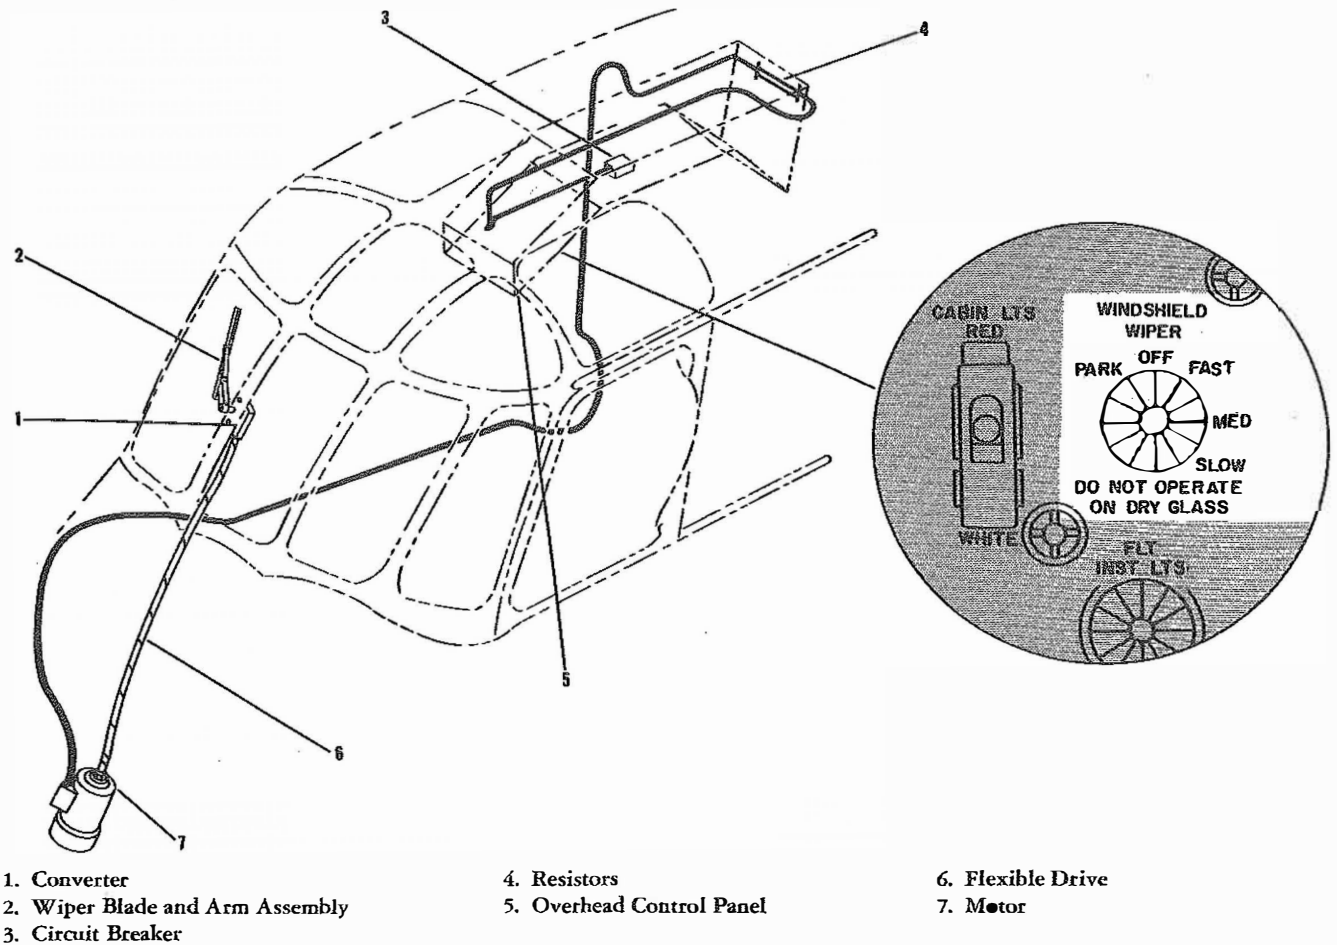

Figure 4-3. Windshield Wiper System Diagram
4-69. DESCRIPTION. (See figure 4-3.) A single windshield wiper is installed on the right-hand, or pilot's side of the cockpit windshield. The wiper blade and the arm assembly (2), which operate over a 120-degree sector of the windshield, are connected to the shaft of a converter (1) on the windshield frame. The
a. Remove the windshield wiper blade from the arm assembly (2, figure 4-3). Cut the lock wire and remove the bolt that holes the arm assembly to the shaft of the converter (1). Remove the arm.
b. Remove the instrument panel cowl. Disconnect the flexible drive (6) at the converter (1) and at the motor (7). Remove the screw and washer that secure the clamp around the flexible drive. Remove the clamp and the flexible drive.
c. Remove the bolts, washers and nuts that secure the converter (1) to the bracket. Remove the converter.
d. Disconnect the electrical wiring from the motor (7). Cut the lock wire and remove the bolts and washers that secure the motor to the bracket. Remove the motor.
a. Secure the motor (7, figure 4-3) to the bracket with the bolts and washers. Lockwire the bolts. Connect the electrical wiring to the motor.
b. Position the converter (1) on the bracket and secure it with the bolts, washers and nuts.
c. Connect the flexible drive (6) to the converter (1) and to the motor (7). Position the clamp around the flexible drive and secure it to the post with the screw and washer. Replace the instrument panel cowl.
b. Unbolt and remove the wiper blade and arm assembly (2, figure 4-3) from the shaft of the converter (1). Turn the "WINDSHIELD WIPER" switch to the "PARK" position and hold it there until the converter shaft stops moving. Turn the switch to "OFF." Install the wiper blade and arm assembly on the converter shaft with the blade at the top of the windshield and parallel to the left frame of the windshield. Secure the control arm to the shaft with the bolt. Lockwire the bolt.